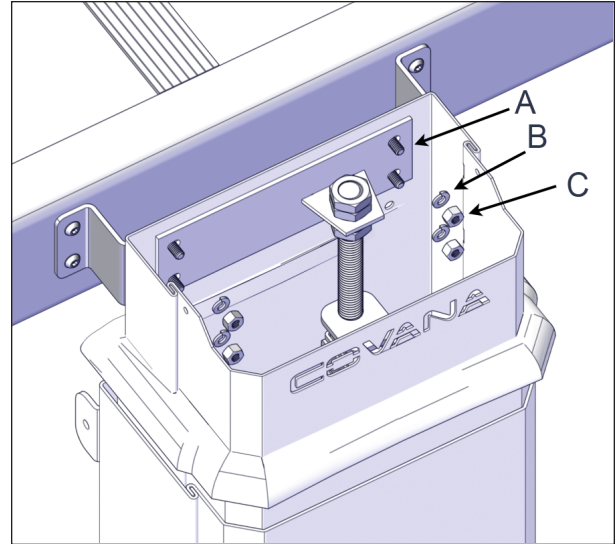

FIGURE 76: SLEEVE INSTALLATION
18. Slide the sleeves over the top of the jacks and fasten them using the 1/4" x 3/4" carriage bolts at the top with 1/4" lock washers and 1/4" nuts. Use a 7/16" (11 mm) socket and spanner, see Figure 76.